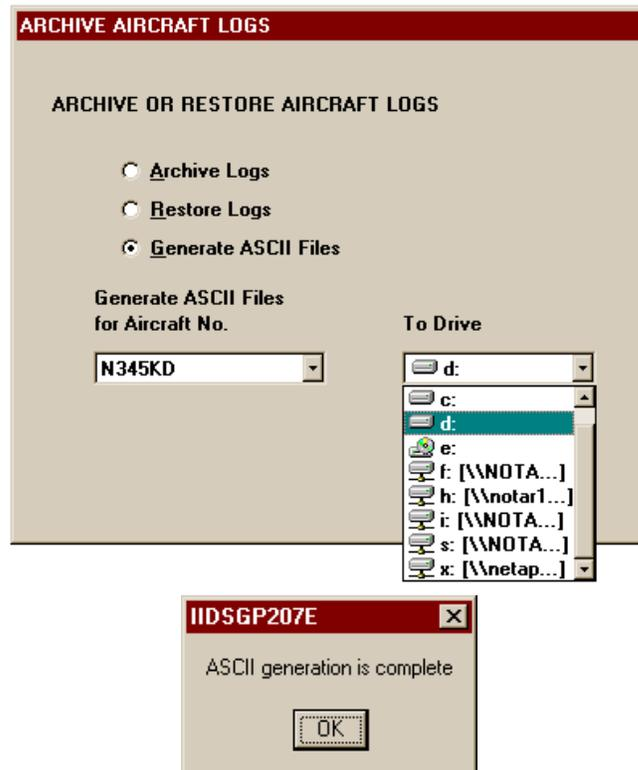
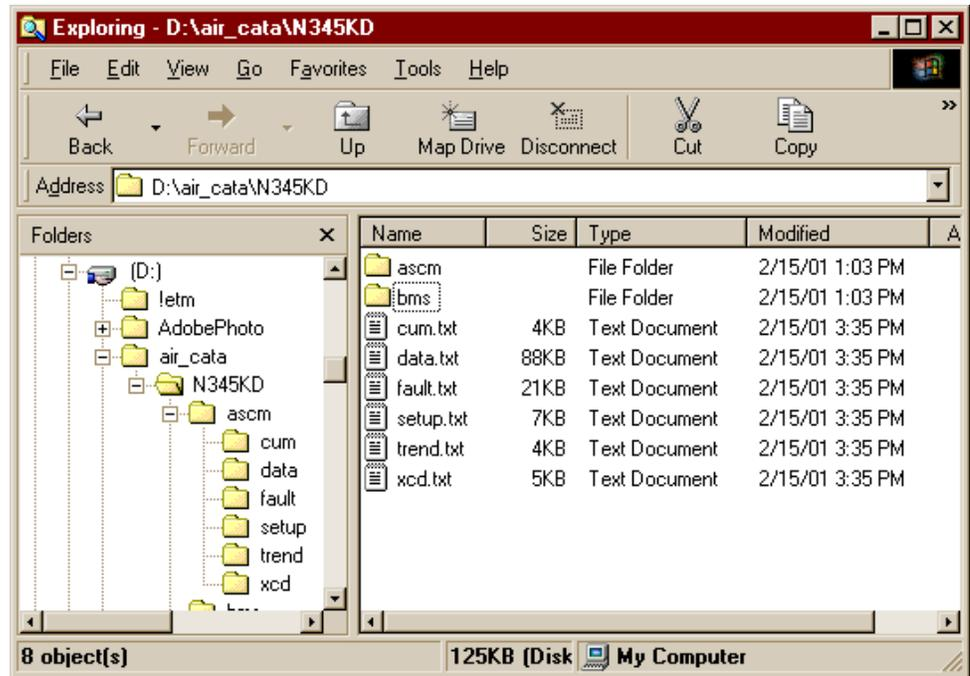

Figure 51. Generate ASCII Aircraft Logs Screens
Figure 52. Generated ASCII Files Location
3. In the Archive Or Restore Aircraft Logs Screen select "Generate ASCII Files" (refer to Figure 51). . The generated ASCII files will be written to the target disk in the following directory(refer to Figure 52): D:\air\_cata\N345KD where "D:\\" is the target drive.